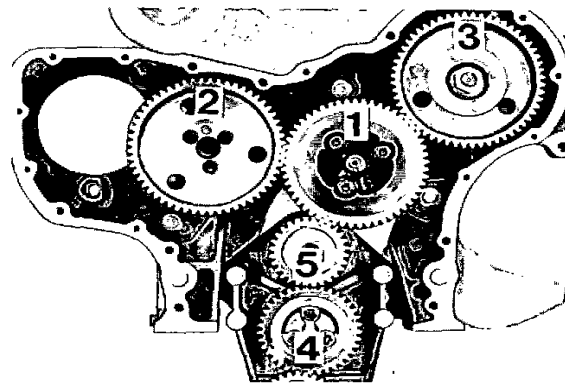
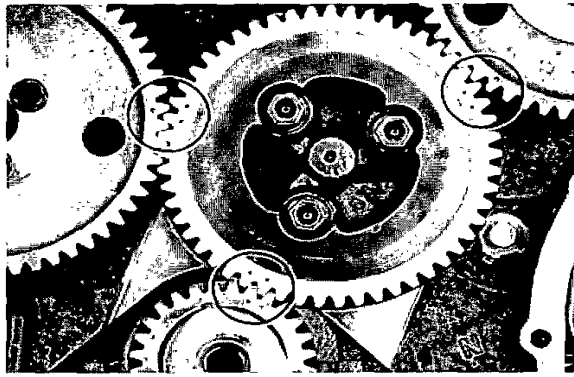
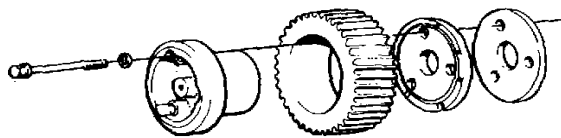

Fig. 79. Auxiliary drive gears
Fig. 81. Auxiliary drive gears, basic setting
Fig. 82. Idler gear, auxiliary drive gears
10. Remove the idler gear (1, fig. 79) together with the bearing journal, the bearing shield, and thrust washer.
**All the gears in the auxiliary drive assembly influencing the settings are marked with a punch opposite the respective tooth or tooth-gap (fig. 81).**
2. Check that the camshaft gear locating pin is fitted. Install the camshaft gear (2, fig. 79). Tightening torque 45 Nm (4.5 kpm = 33 lbf.ft). Lock the bolts with the lock washer.
3. Set the crankshaft with No. 1 piston in its T.D.C. position (keyway in crankshaft facing straight upwards). Assemble the idler gear (1, fig. 79) according to the marking (fig. 81). The bearing shield and thrust washer are located as shown in fig. 82.
4. **60 series:** Fit the injection pump drive (3) with the intermediate piece without tightening the bolts. Check that the markings coincide as shown in fig. 81.
**70 series:** Check that the guide pin is fitted in the shaft for the fuel injection pump and fit the pump drive. Make sure that the markings coincide as shown in fig. 81.